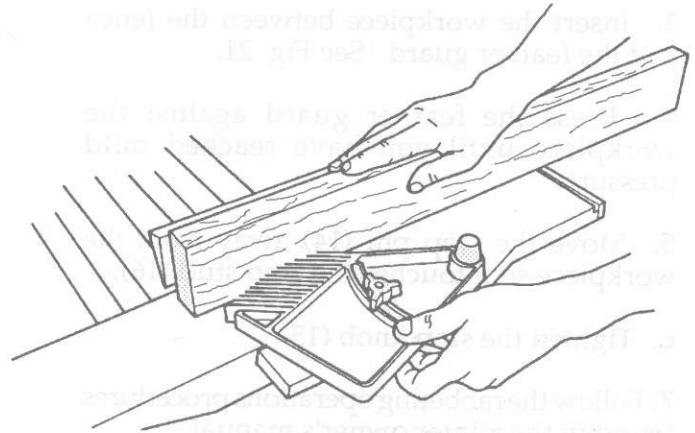
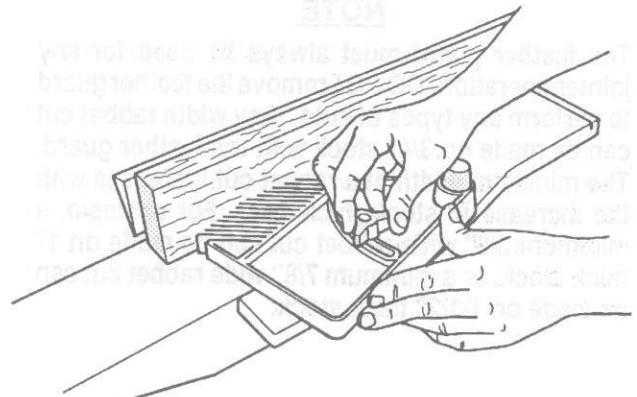

Fig. 18
Fig. 19
1. Loosen the stop knob (15).
2. Place the workpiece against the fence and between the fence and the feather guard. See Fig. 18.
4. Move the stop pin (15) away from the workpiece so it touches the stop stud (16).
5. Tighten the stop knob (15), as in Fig. 19.